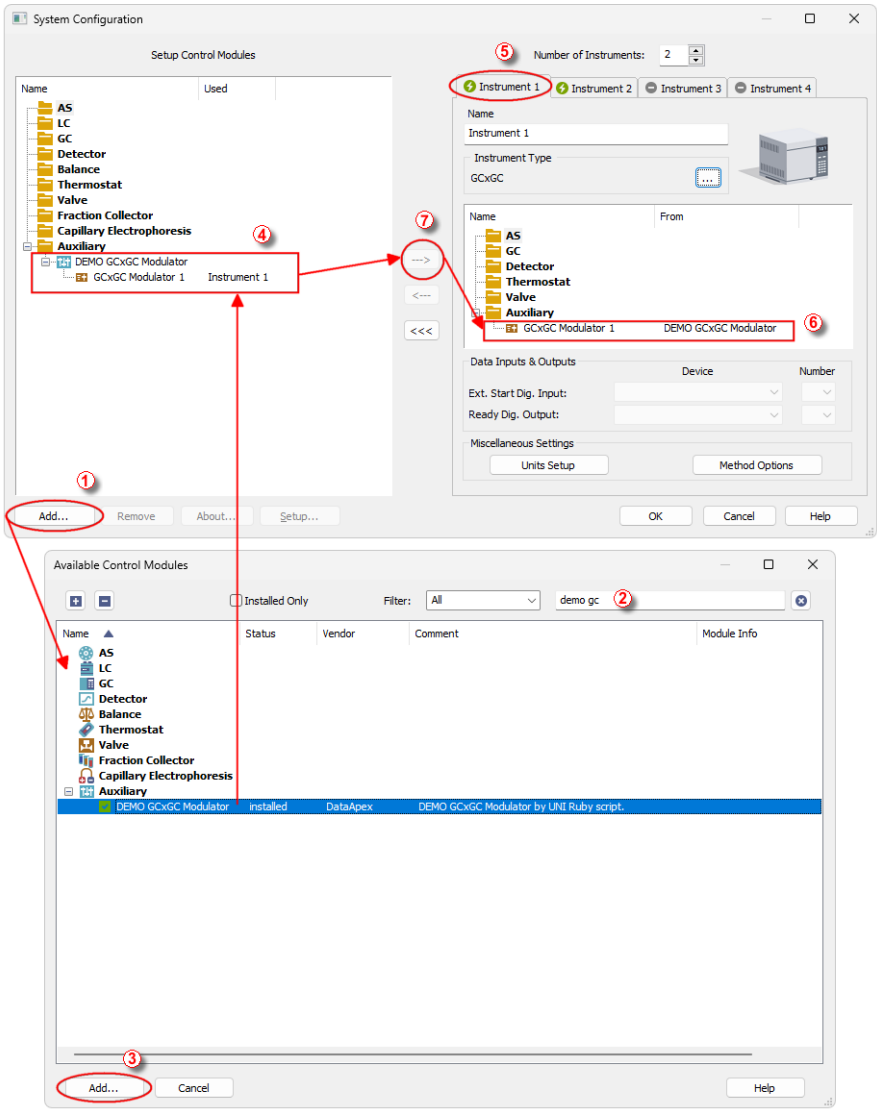

Fig. 1: How to Add Demo Gcxgc Modulator
- Press the **Add** button (① on **Fig. 1** on pg. 3.) to invoke the *Available Control Modules* dialog.
- You can specify the search filter ② to simplify the finding of the driver.
- Select the correct item and press the **Add** (③ on **Fig. 1** on pg. 3.) button. Each device with already created UNI profile should have its own item named accordingly in the *Available Control Modules* dialog. Generic (or newly created) **UNI Ruby** device is added from the Auxiliary group.